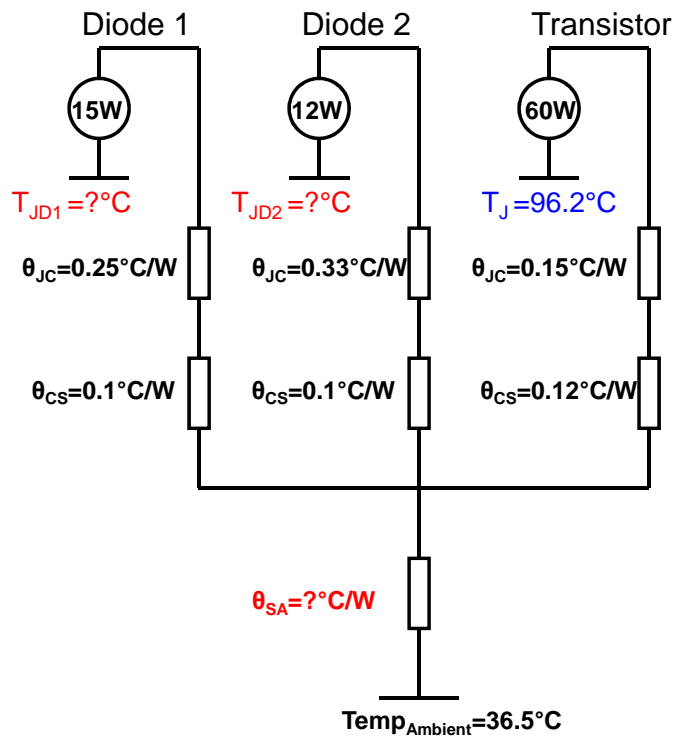

Figure 26. System comprising two diodes and a transistor on a heatsink.
- 9.3 Calculate T_{JD1} , T_{JD2} and θ_{SA} for the system shown in figure 26.